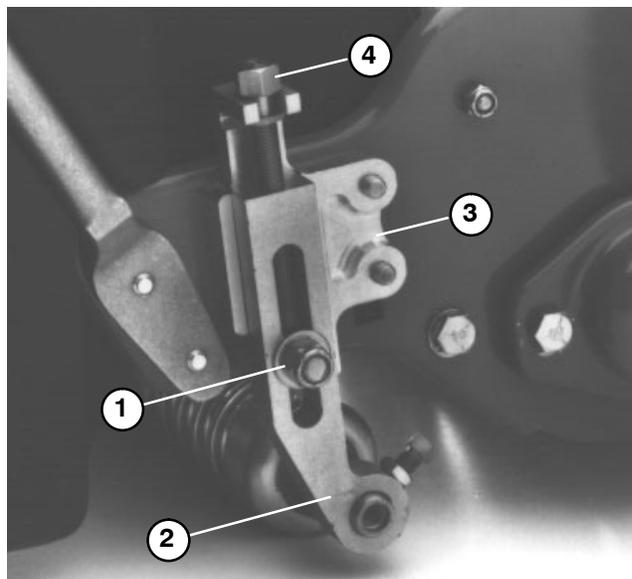

Figure 17
3. Loosen locknuts securing height-of-cut arms to the height-of-cut brackets (Fig. 17).
6. Rotate height-of-cut screw until the roller contacts the front of the gauge bar. Adjust both ends of the roller until the entire roller is parallel to the bedknife (Fig. 17).
7. Tighten both lock nuts to lock the height adjustment (Fig. 17).